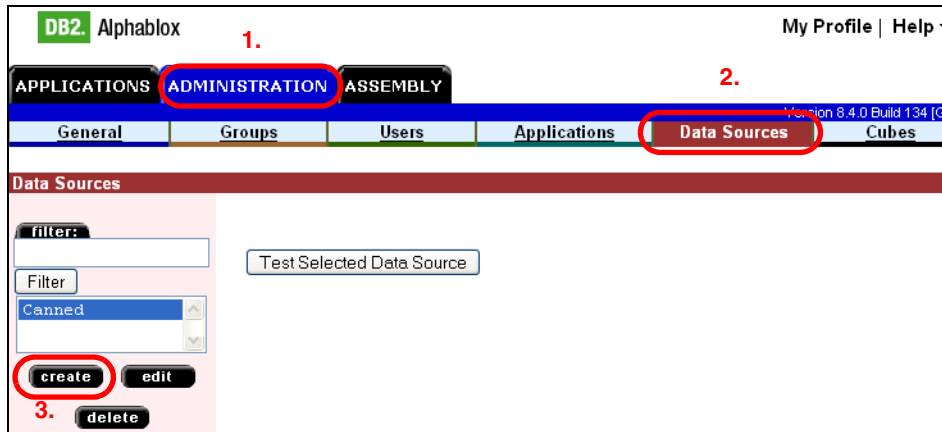

Figure B-21 DB2 Alphablox Administration Console
- ▶ Click *Create* (Figure B-21).